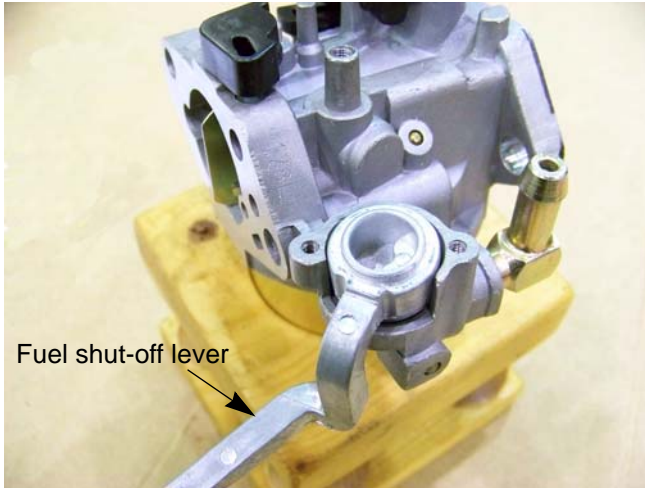

Figure 4.38
6. Remove the fuel shut-off lever. See Figure 4.38.